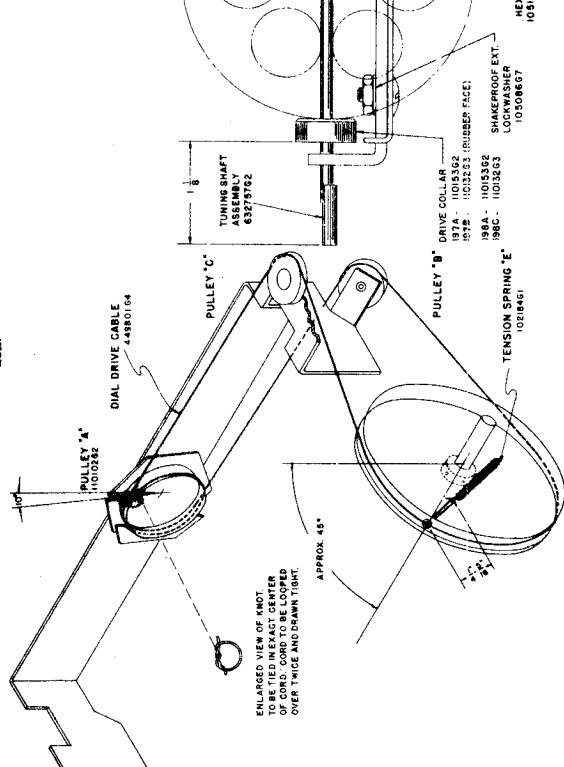

FIGURE 3
2. Check the tuning dial pointer adjustment. When the plates of the tuning condenser are completely meshed, the dial pointer must be in line with the least calibration mark at the low frequency end of the dial. If it is not, loosen the set screws in the hub of pulley "D" shown on Figure 3 and make the necessary adjustment.
Rotate the brass pulley designated "A" in Figure 3 until the dial pointer strikes the stop at the high frequency end of the dial calibration. In this condition the slot in pulley "A" should be approximately ten degrees to the left of being vertical—see Figure 3. If the slot in the pulley is in some other position under the above mentioned conditions, the pointer set screw is probably loose and has allowed the pointer to slip.
Completely unmesh the condenser gang and check the location of the hole or slot in pulley "D". If this hole is not approximately 45 degrees back from vertical as shown on Figure 3, loosen the two No. 6 Allen set screws in the hub of pulley "D" and slip the pulley on its shaft (while holding the condenser gang unmeshed) until the specified adjustment is obtained; then tighten one of the set screws securely. It will be shown later that this is a temporary setting. Next, tie a double knot in the exact center of a 25-inch length of dial cable and fold the cable back on itself so that the knot is at one end. The correct